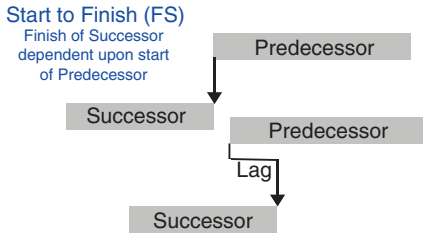

Figure 5.3 Start to Finish relationship.
Figure 5.3 shows the Start to Finish (SF) relationship, where the Successor task cannot finish until the Predecessor task has started. This is the least commonly used task relationship.